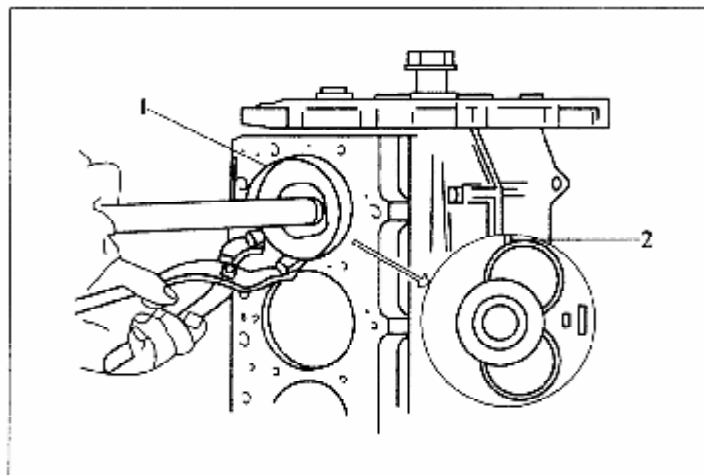

Figure 3-11 Mount piston with piston ring compressor
Piston top is carved with forward mark that is supposed to point engine front at mounting. Beside, there is outer diameter group mark on piston (see figure 3-11), which indicates piston's matching cylinder sleeve.
- **Note:** When mounting a piston, forward mark should point to engine front. See figure 3-11. Measure piston for any wears during service. Replace piston when wear on it exceeds limit.